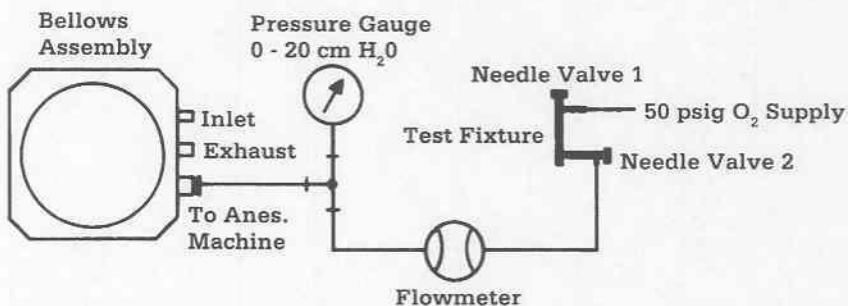

Figure 3-3
1. Connect the test equipment to the bellows assembly as shown in Figure 3-3.